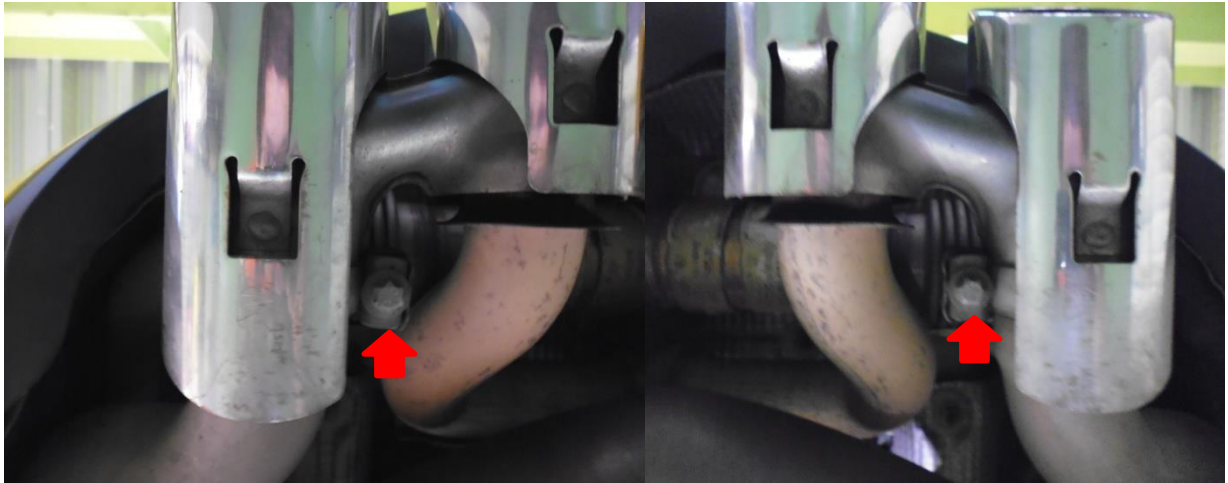

Fig 1-3
2. Use the E14 star wrench to remove the left and right tips. (Fig1-3)